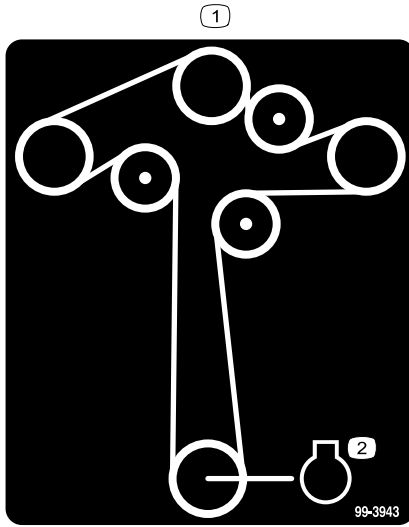

Figure 8
1. Install the mower belt (Figure 8), if removed. Refer to the Replacing the Mower Belt section in the *Operator's Manual*.